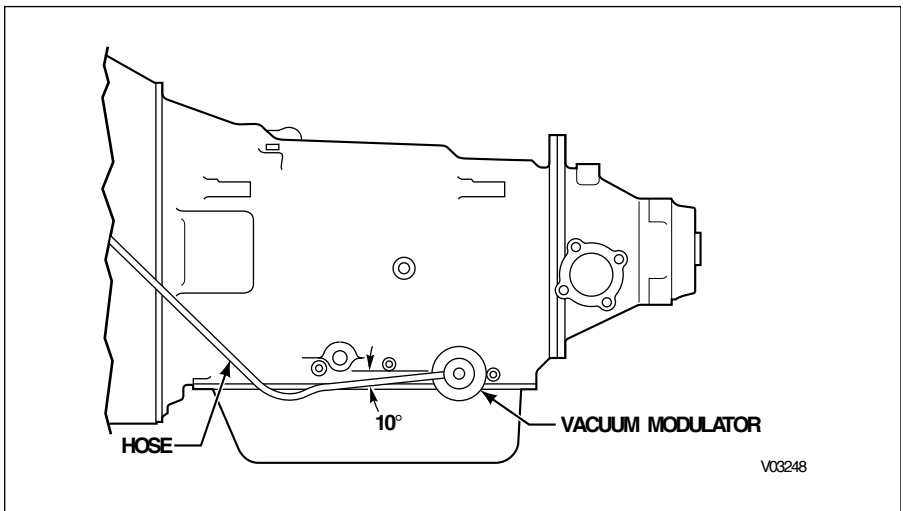

Figure 5-2. Proper Relation of Vacuum Hose to Modulator Control
- Connect the vacuum or air line to the modulator. The tube connection at the vacuum modulator should face toward the engine. The routing should be approximately 10 degrees below horizontal and include a condensate trap (goose neck) as shown in Figure 5-2.